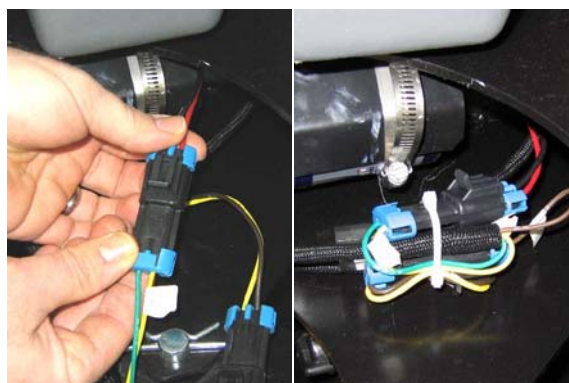

Fig. 18
4. Connect the pump wire connector to the *ec-H2O* wire harness and secure with wire-tie (Figure 18).